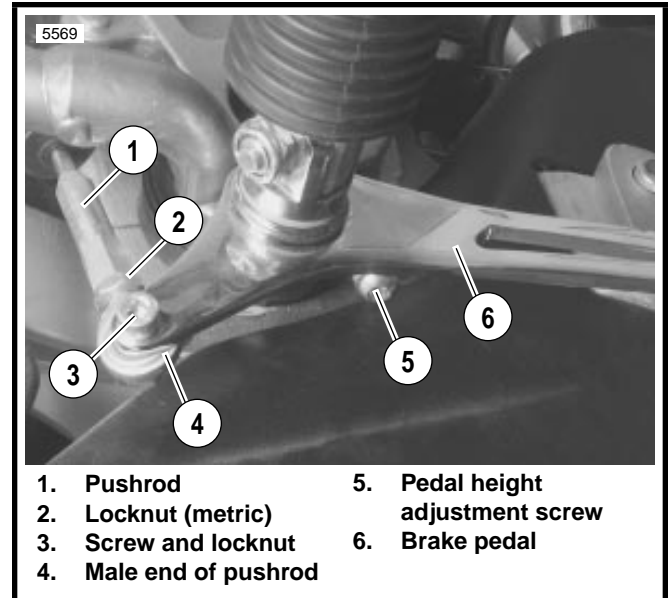

Figure 2-23. Brake Pedal
1. See Figure 2-23. Brake pedal must have 1/8 in. (3.2 mm) pushrod freeplay. If adjustment is necessary, hold pushrod (1) and loosen locknut (2) (metric).
2. See Figure 2-23. Remove screw and locknut (3) to detach male end of push rod (4) from brake pedal. Remove push rod.
4. See Figure 2-23. Place push rod into rear master cylinder. Install male rod end behind brake pedal with screw and locknut. Tighten screw to 10-12 ft-lbs (13.6-16.2 Nm).